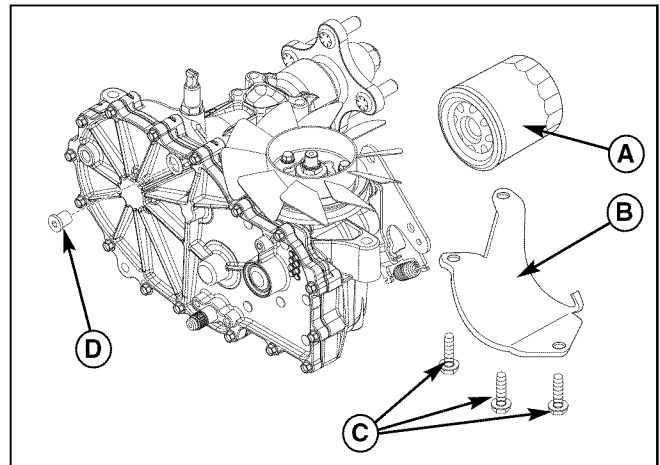

Figure 30. Transmission (Left Side Shown.)
1. Locate the transmission oil filters (A, Figure 30) underneath the rear of the machine on the transmissions.
2. Remove the three 1/4” filter guard screws (C) and the filter guard (B).